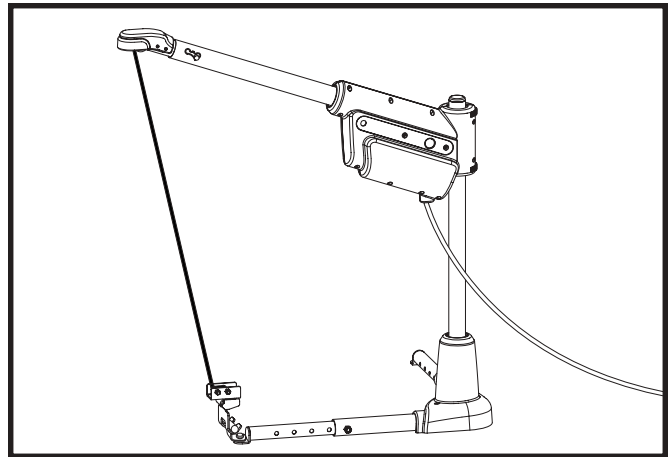

Figure 17. Securing The Boom-arm
11. If installed in a van, disconnect the hook from the docking device and attach it to the T-bar on the base extension. (This prevents the boom-arm from swinging freely while the motor vehicle is in motion.) Operate the lift in the upward direction until the strap is snug. **See figure 17.**